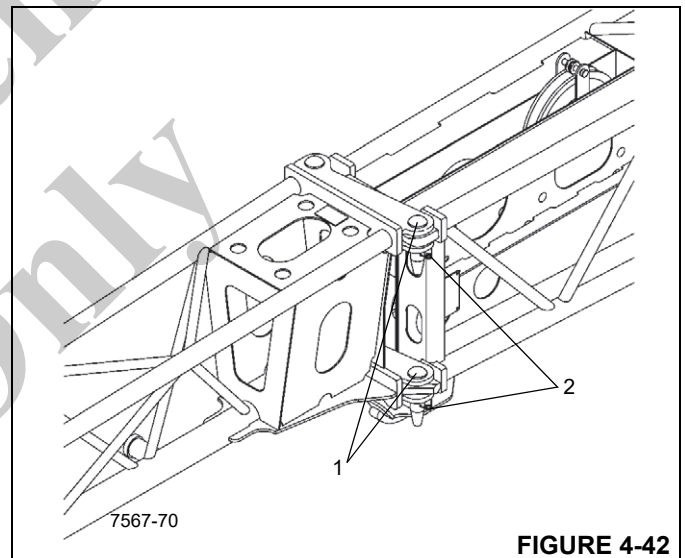

FIGURE 4-42
20. Using the tag line (Figure 4-42) to maintain control, swing the 23 ft (7 m) extension into the erected position.
- 22. Remove retainer clips and pins (Figure 4-42) from holder. Install pins (1) in connecting lugs and secure with retainer clips (2).